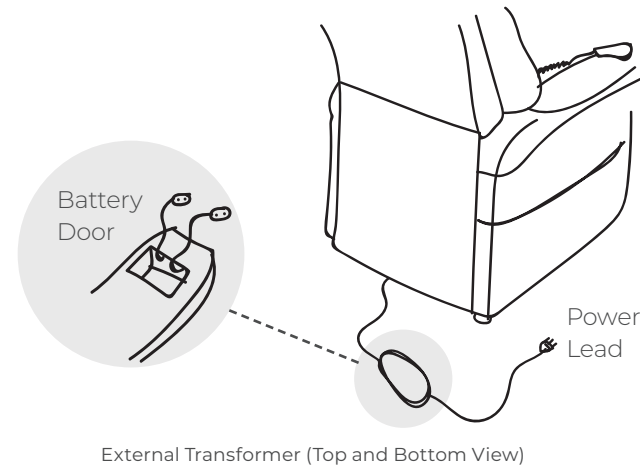

Figure 4.2.1 Lift Chair Battery Backup Location
3. Install two 9V lithium-ion batteries into the external transformer (**Figure 4.2.1**).